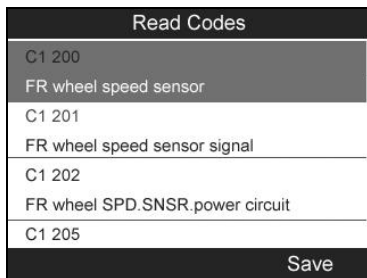

Figure 3.27
- 2) A data list of TPMS DTCs retrieved from the vehicle's ECU will show up, if the data covers more than one screen, use the **UP/DOWN** scroll button to view DTC information, and press the **Y** button to **Save** data for future review, or press the **N** button to exit without saving. (Figure 3.27)